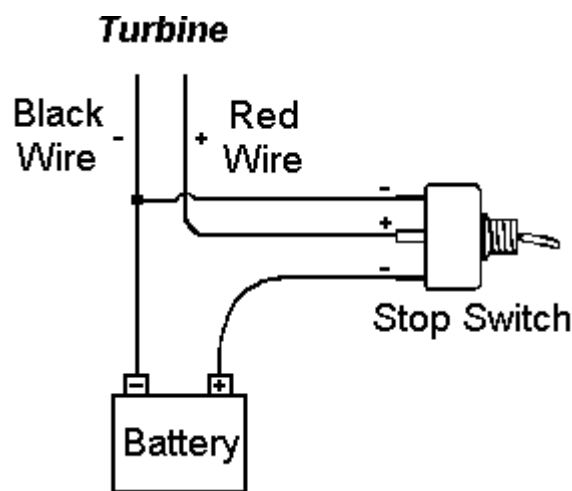

Figure 2 Stop Switch Wiring
- When performing periodic inspections, or at any time when you must approach the path of the blades, disconnect the power leads from the battery to avoid electrical shock and tie the wind turbine output leads together to stop (*slow down*) the blades from rotating. The turbine can also be shut down through the use of a stop switch. Please refer to **Figure 2 on page 11** on how to install a stop switch in your system.